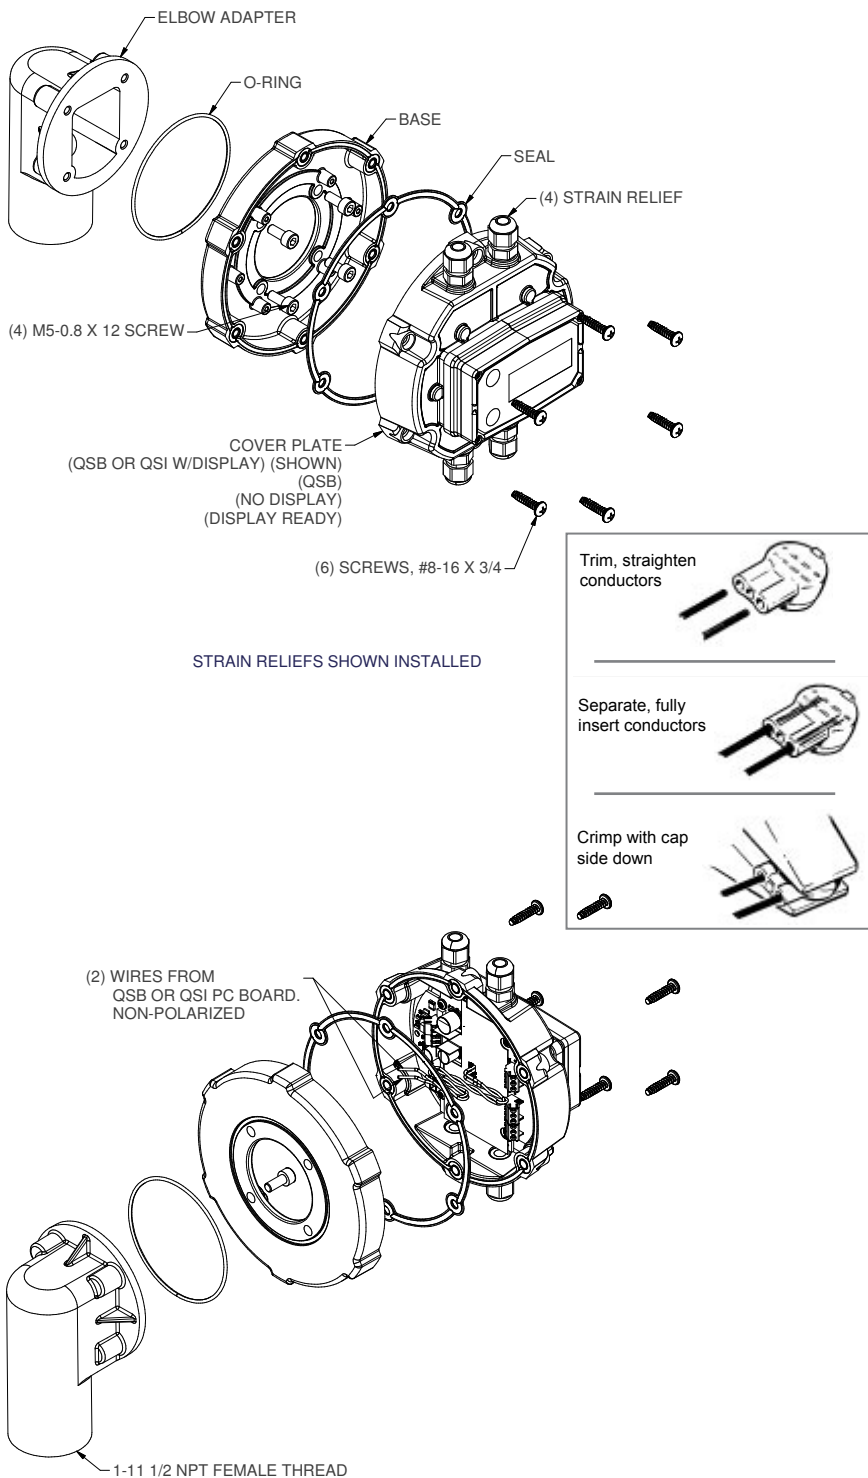
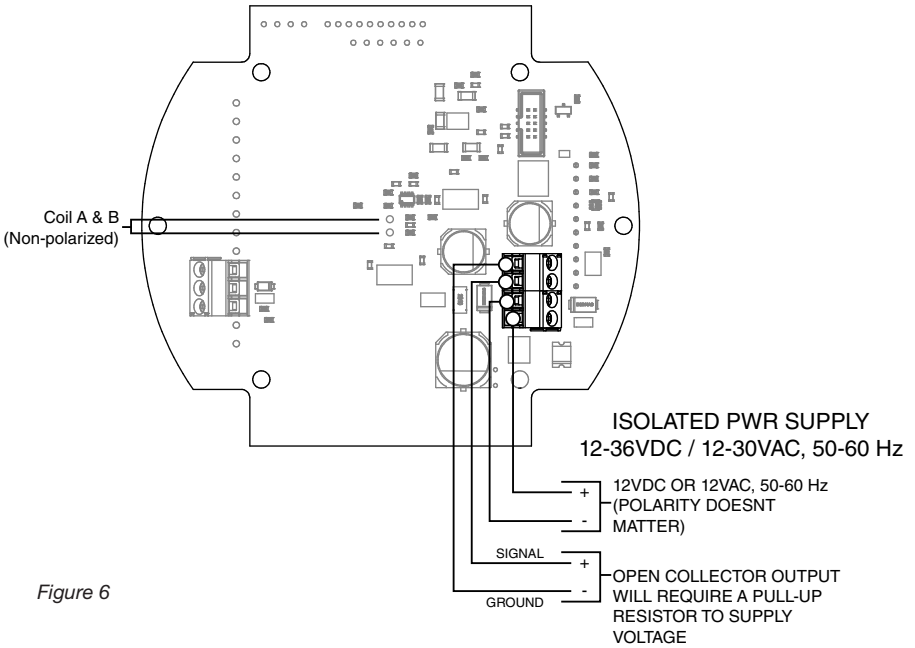

Figure 4
Figure 6
3. Remove the (6) #8-16 x 3/4 in. screws attaching the module cover plate to the base and separate. Do not damage the seal between the two components (see Figure 4).
6. Route the (2) wires from the meter sensor through the elbow adapter and out the face of the base. Snip ends to remove stripped wire. Connect either of the meter sensor wires to either wire from the QSB or QSI PC board using the enclosed butt-splice connectors (see Figure 4). Crimp connector to splice wires together and release insulation gel. Repeat with the remaining sensor and PC board wire (see Figure 6, 8, 10, or 12 depending on your QSB or QSI version).
9. Connect cable wires to the QSB or QSI PC board screw terminals (see Figure 6, 8, 10, or 12 depending on your QSB or QSI version).
10. Mount the cover plate on the base making sure the seal is seated properly between them. Replace the (6) previously removed screws to secure the cover plate to the base. Tighten screws.